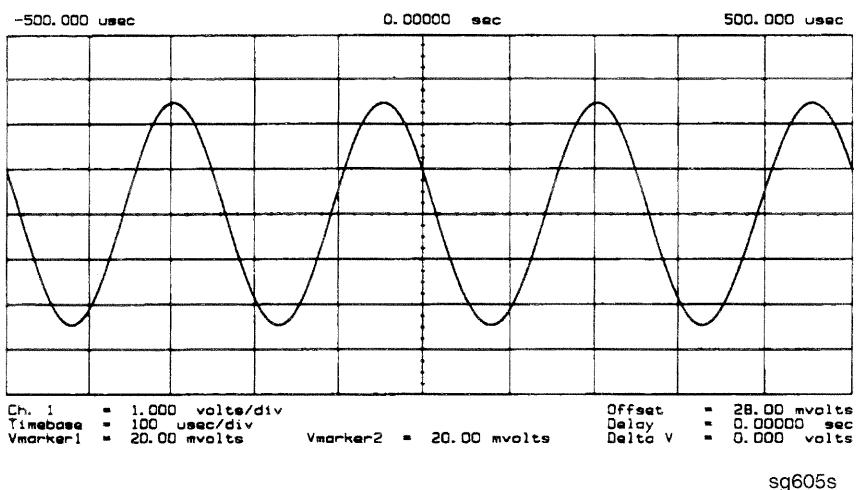

Figure 8-6. 2nd IF (4 kHz) Waveform
2. Use an oscilloscope to check the 4 kHz output of the sampler/mixer in question at the A10 assembly. The input and output access pins are listed in Table 8-2. The signal should resemble the waveform of Figure 8-6.